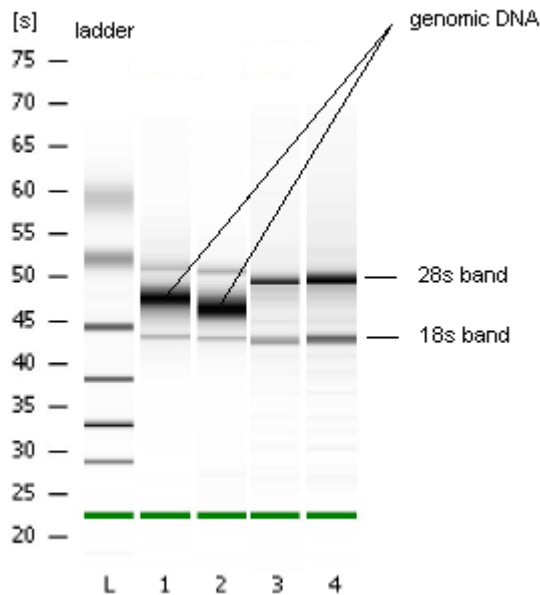

Figure 1: Bioanalyzer gel-image pattern of total RNA
16. Important: It is extremely important to start microarray experiments with very good quality of RNA. The A_{260}/A_{280} ratio should be above 1.8. The gel electrophoresis pattern should reveal two major bands of 28 S and 18 S RNA and no smear from genomic DNA (See Figure 1 below).